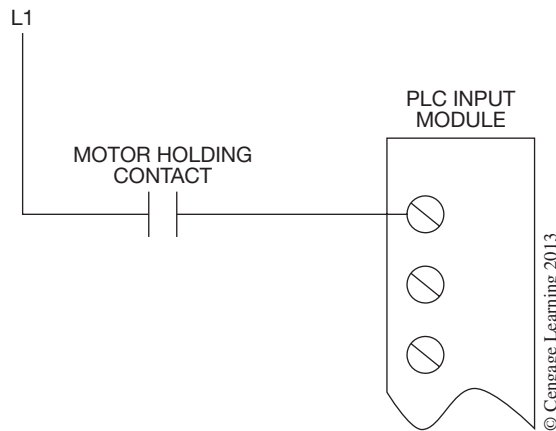

Figure 9–21 Motor Holding Contacts Wired to Input Module
- Step 3.** Write a rung of PLC logic that will monitor the motor starter for either of the two abnormal conditions described above, failure to pull in *or* drop out (see Figure 9–22, Rung 2). If an abnormal condition is detected, then Rung 2 will turn *ON* an internal memory bit labeled “Motor Fault” that will seal in and remain *ON* until an operator or maintenance person reattempts to start the motor. The first two branches in Rung 2